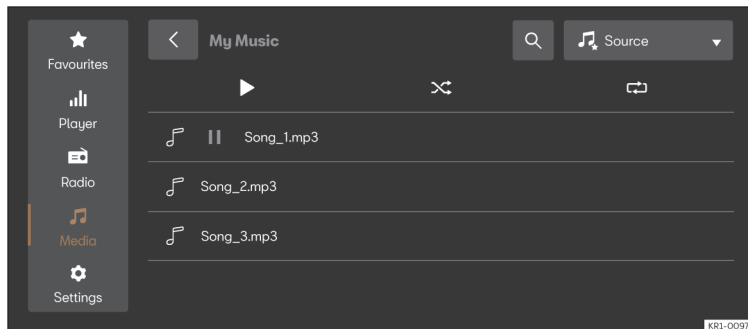

Fig. 157 Schematic representation: Media view
- Press **HOME** > >>> **Fig. 157**.